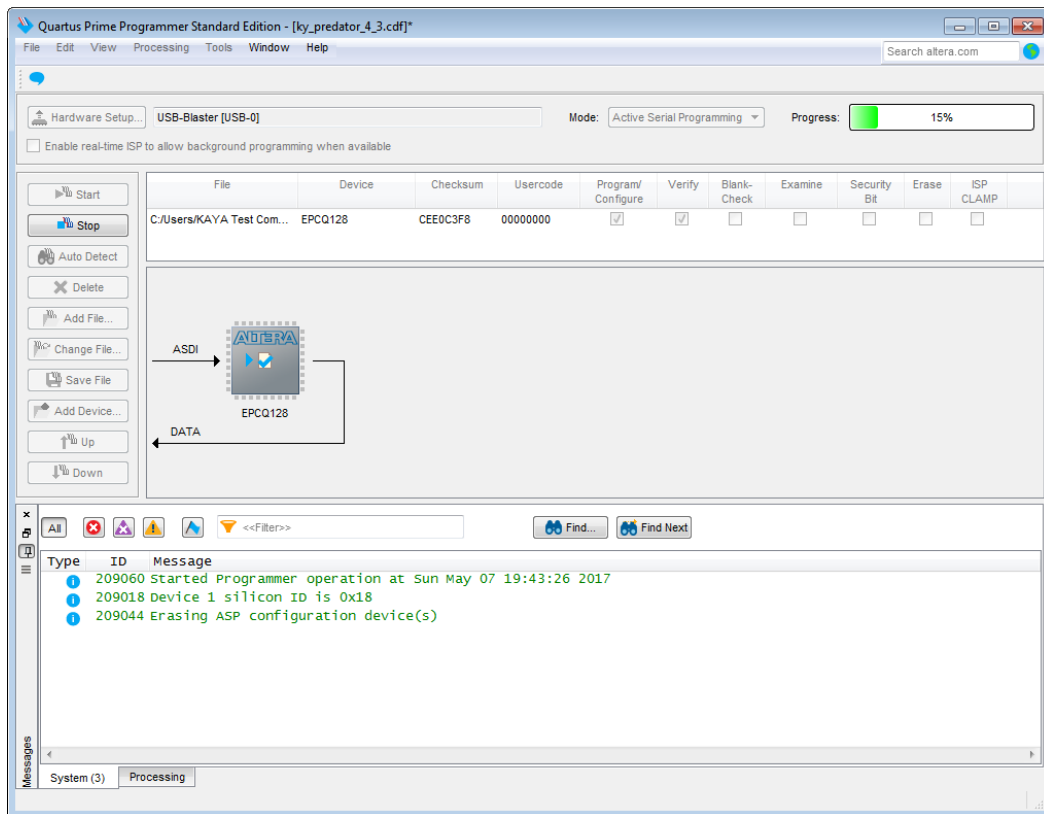

Figure 6 : Quartus – Programming Process
- Click “Start” to initiate the image programming. This operation may take up to 15 minutes and shown in Figure 6.